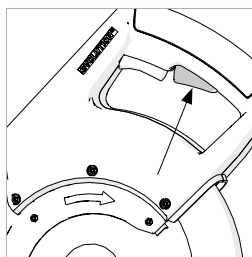

Fig. 25
- Remember to press the lock-off button first before the On/Off switch. (Fig. 25)